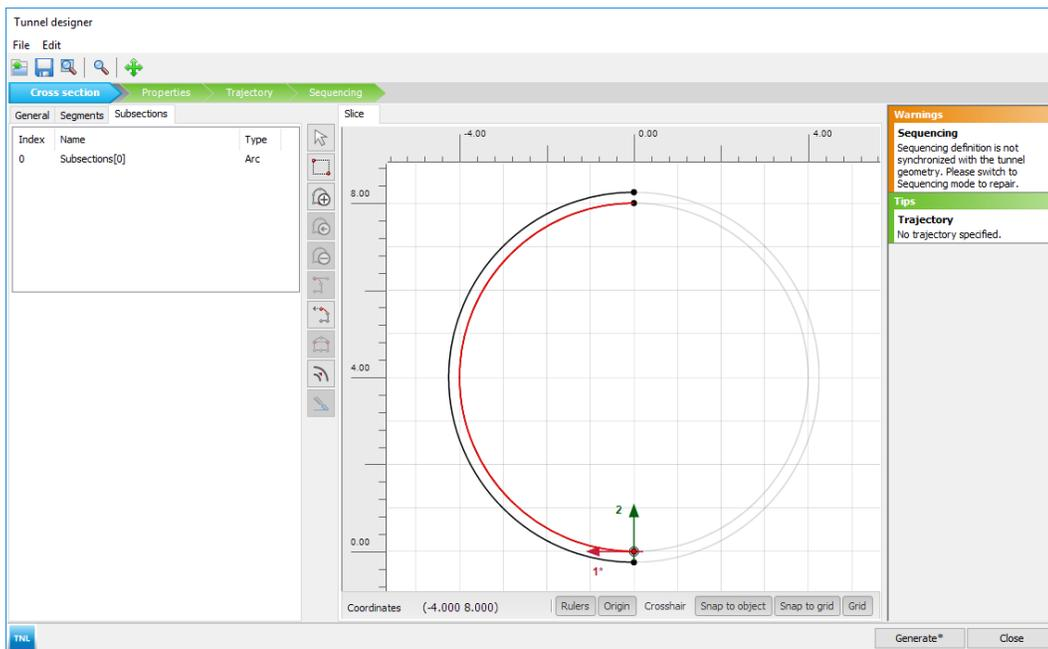

Figure 72: The Cross section tabsheet of the Tunnel designer
11. Assign a value of 0.25 m and click **OK**. A screenshot of the **Cross section** tabsheet after the proper assignment is given in Figure 72: The Cross section tabsheet of the Tunnel designer (on page 96)